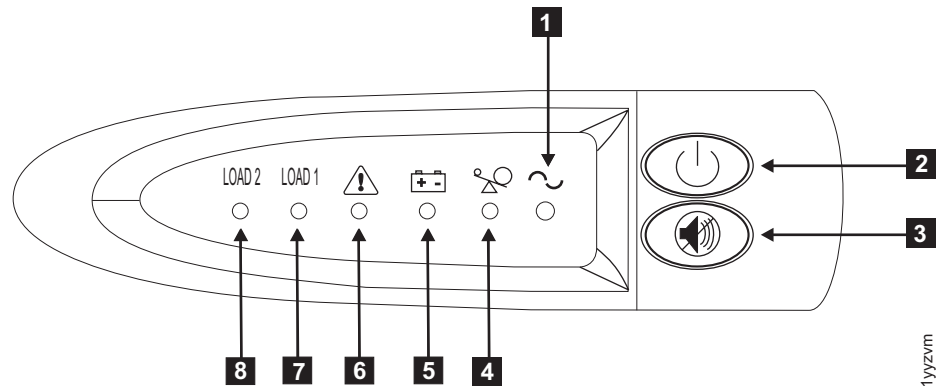

Figure 24. Power switch and indicators of the 2145 UPS-1U
11. Press and hold the on/off button **2** for approximately two seconds. The **front panel indicators** cycle through a startup sequence while the 2145 UPS-1U conducts a self-test; see Figure 24 on page 51.